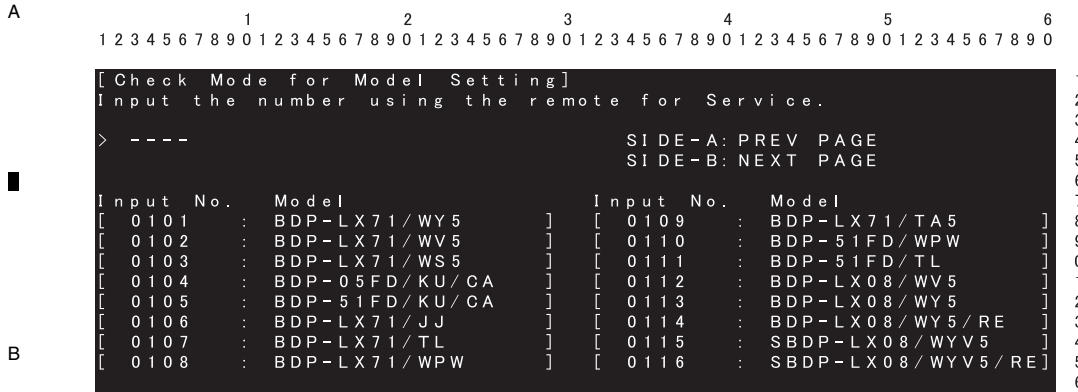

Fig. 1: Screen image 1
- The screen for setting the destination region will be analogous to the screen shown in Fig. 1.